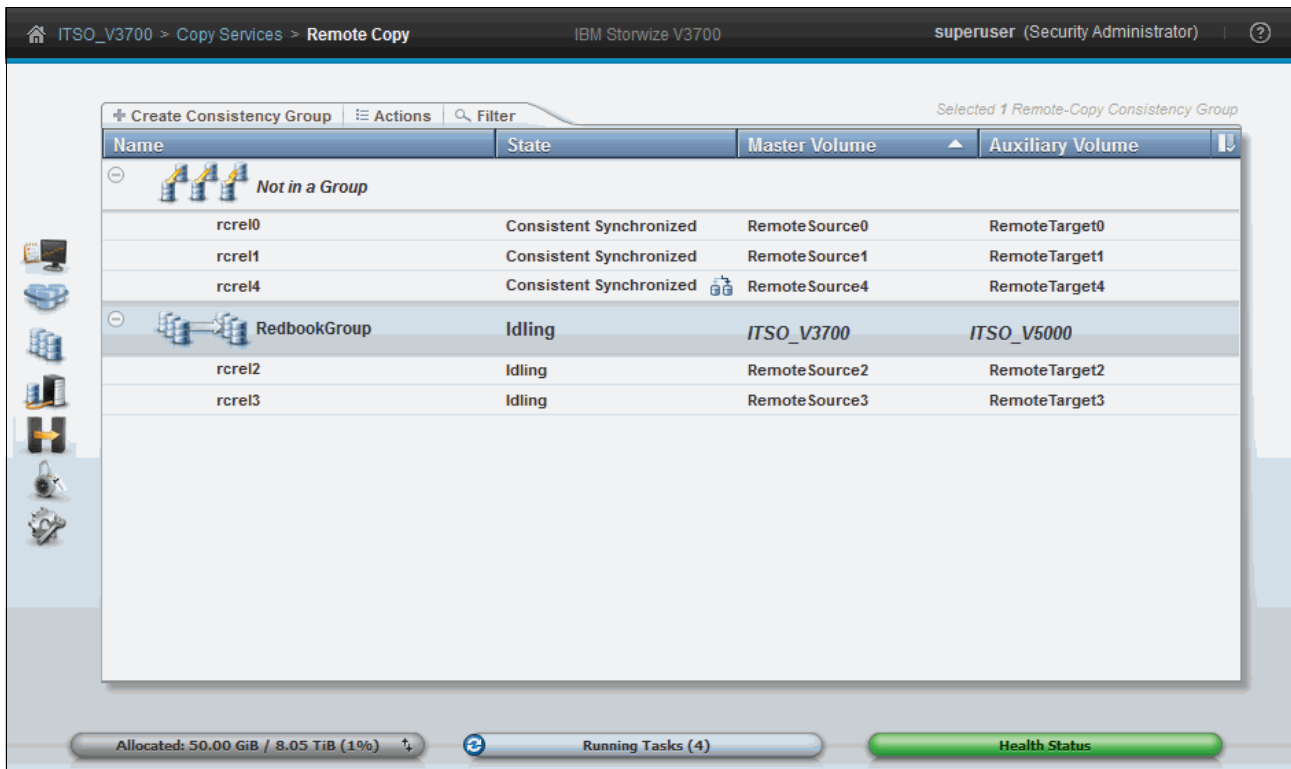

Figure 10-137 A stopped consistency group in the Idling state
- The Consistency Group is now in the **Consistent Stopped** state if you chose not to allow read/write access, or in the **Idling** state if you chose to allow access, as shown in Figure 10-137.